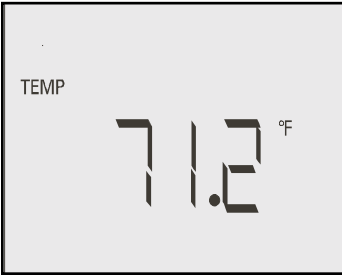

Figure 1
5.1.1 The VA500A will switch on in the TEMP mode. If already in another mode, press the MODE button until TEMP is displayed on LCD. (Fig. 1)